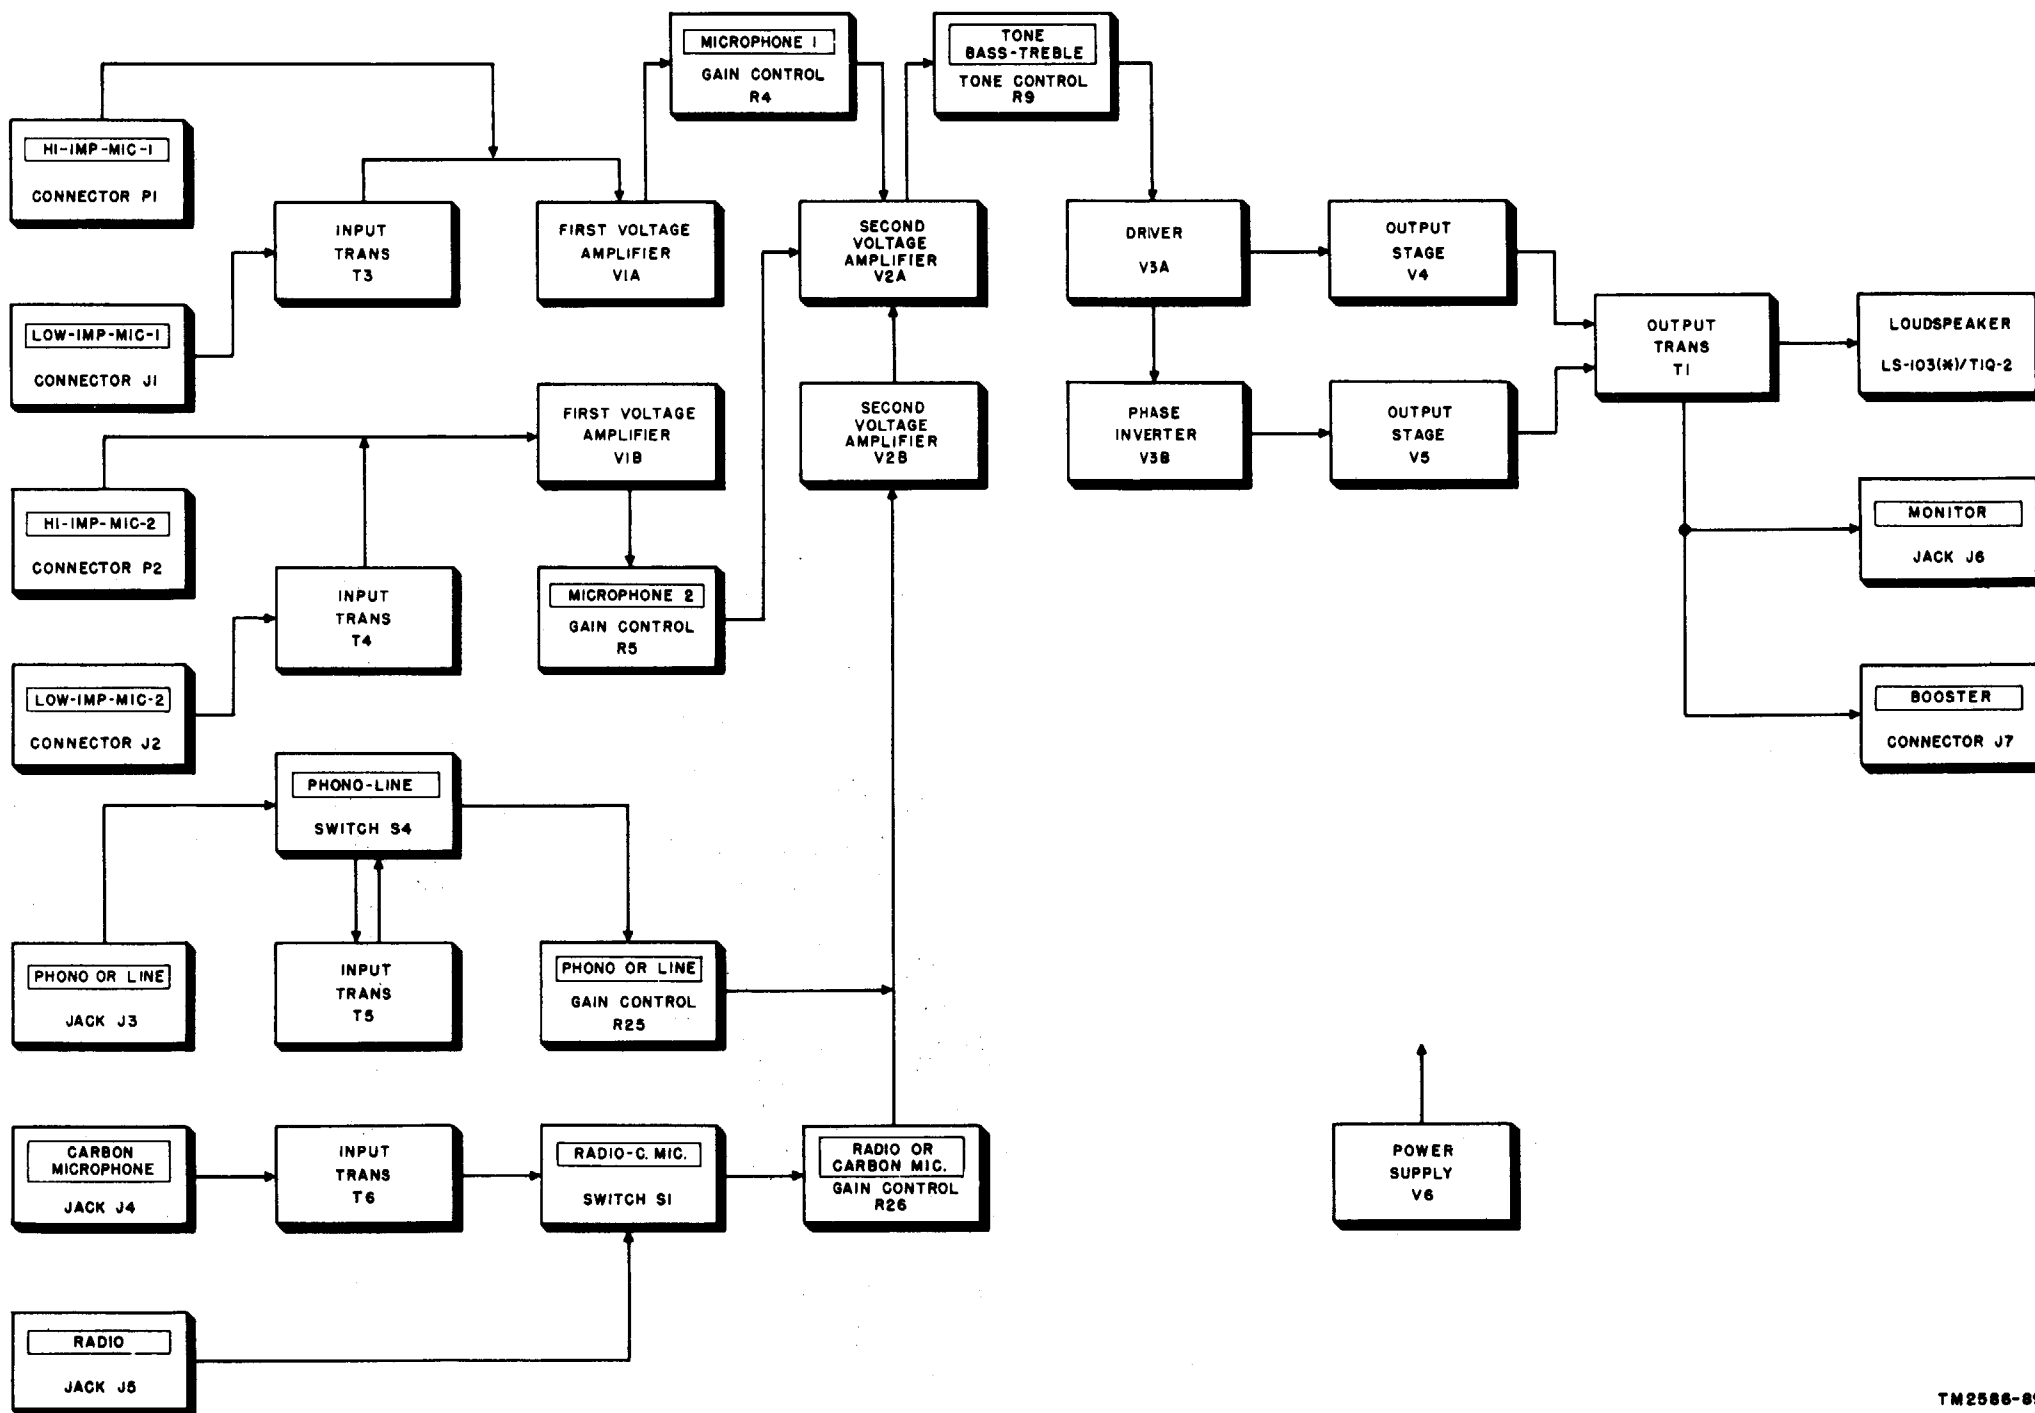

Figure 31. Amplifier AM-20(*)/TIQ-2, block diagram.
d. The block diagram in figure 31 shows the various circuit stages and the positions they occupy in the amplifier.